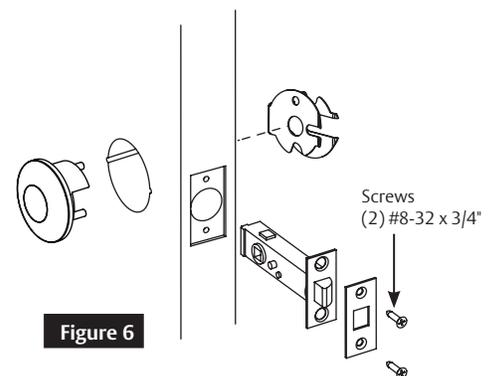

Figure 6
1. Install latch using (2) #8-32 x 3/4" screws. Install loosely; tighten after step #5.
2. Slide blank outside rose assembly into bore, see Figure 6.